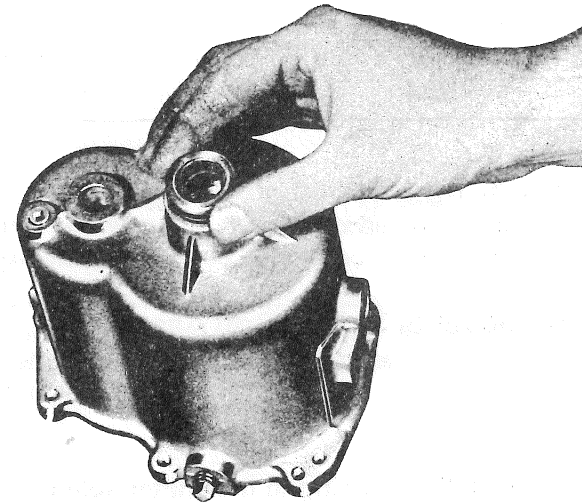

Figure 4-14 Jackshaft Seal Installation
3. Place the seal in position. (See Figure 4-14)